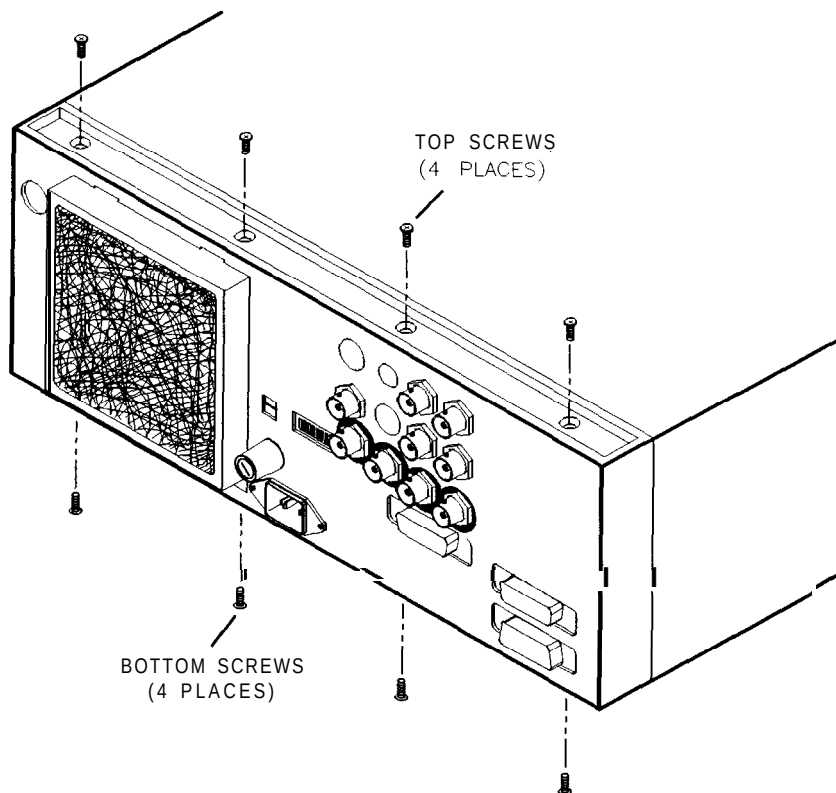

Figure 7-34. Rear Panel Removal
1. Remove the four screws on the top back edge. Refer to Figure 7-34.